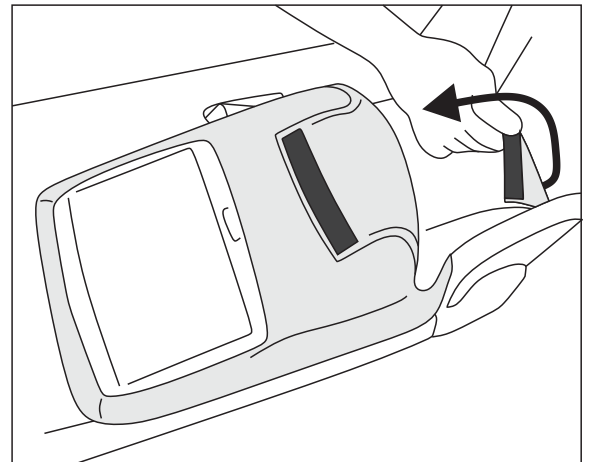

Fig. 10
10. Pull bottom part of armrest cover and secure the hook and loop tapes. (Fig. 10)